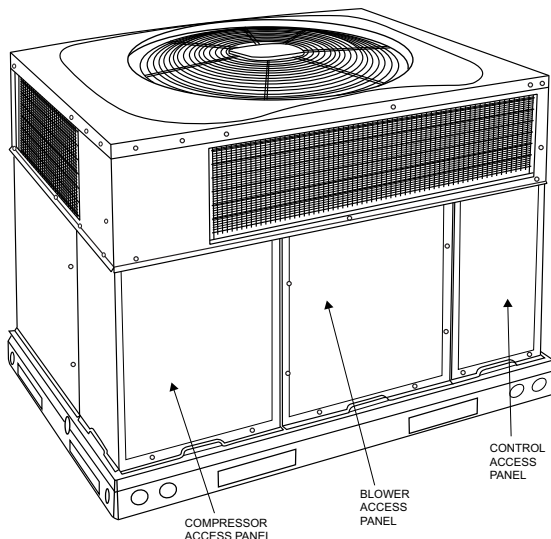

Fig. 25 – Unit Access Panels
- a. Remove blower access panel (see Fig. 25).
- Reinstall blower access panel (see Fig. 25).
Remove blower access panel (see Fig. 25). Limit switch is located on the fan partition.
Remove access panels (see Fig. 25) to locate all the electrical controls and wiring. Before working with or handling any electrical components, make sure that all capacitors are properly discharged to avoid possibility of sparking. Replace components only with parts specified by the manufacturer. Other parts may result in the ignition of refrigerant in the atmosphere from a leak. Check all electrical connections for tightness. Tighten all screw connections. If any smoky or burned connections are noticed, disassemble the connection, clean all the parts, re-strip the wire end and reassemble the connection properly and securely.